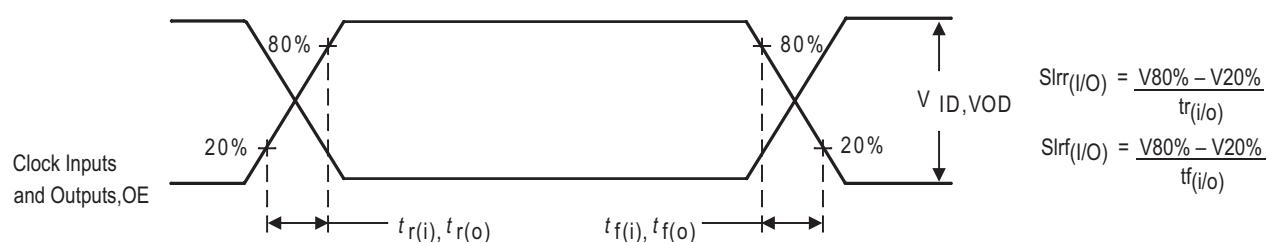

Figure 9. Input and Output Slew Rates
2. V_{ID} is the magnitude of the difference between the input level on CK and the input level on $\overline{\text{CK}}$, see Figure 9 for definition. The CK and $\overline{\text{CK}}$, V_{IH} and V_{IL} limits are used to define the DC low and high levels for the logic detect state.